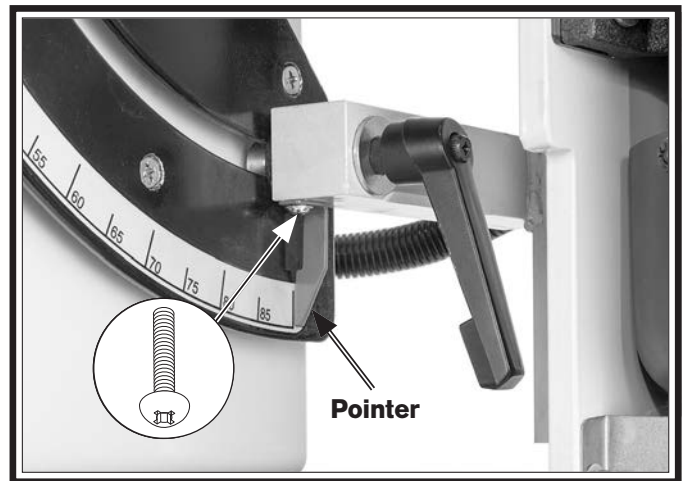

Figure 82. Tilt scale pointer components.
5. Loosen Phillips head screw (see **Figure 82**), adjust pointer to 90°, then tighten screw.